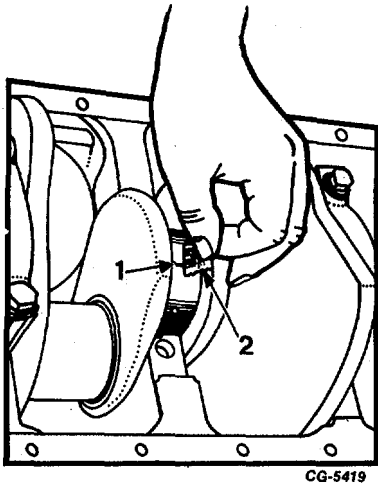

Fig. 126. Checking Main Bearing Clearance
5. Do not disturb Plastigage. Using the Plastigage envelope, measure the widest point of the Plastigage, Figure 126. This reading indicates the bearing clearance in thousandths of an inch.